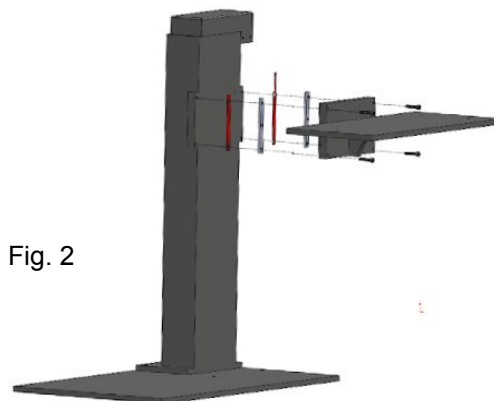

Fig. 2
4. The mounting plate will be attached to the side of the stage. The flag spacer and the sensor flag are attached with the flag pointing upward. (See Fig.2)